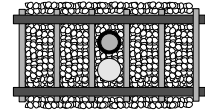
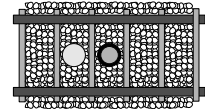
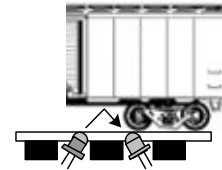

Figure 4a
Figure 4b
Figure 4c
The Signal Animator provides automatic operation of 3-color/aspect block signals in a semi-prototypical way. An Infrared (IR) emitter and detector are used for train detection. Detection is achieved when the IR beam from the emitter reflects off the underside of the train back down to the detector. **Despite the use of infrared components you could still encounter false triggering from overhead lighting. This is usually eliminated with angled sensor mounting (Figure 4c) and/or proper sensor sensitivity adjustment (page 3).** This version of the Signal Animator must be powered from either a 7-9V AC or 9-12V DC power source. Do NOT exceed these limits! Whenever the sensor is activated by any portion of a train the signal will turn red. Once the sensor is cleared the Signal Animator will delay (10 or 30 seconds; see below) and then change the signal to yellow. After another delay the signal will be changed to green.
The IR components should be mounted between the rails. Drill two 11/64" holes, approximately 1/4" apart, through the ballast, roadbed, and sub-roadbed. For the smaller scales this drilling may end up hitting the ties. Take your time so you don't mangle them! Figure 4a illustrates the suggested placement of the IR components between the rails; you may also locate them a tie apart from each other (Figure 4b). Insert the leads of one IR emitter (white and black wires) into one of the holes (it doesn't matter which one!) from the top of your layout. Repeat for the IR detector (blue and black wires). The tops of the components should sit no higher than the top of your ballast for optimal IR performance; in some cases (e.g. false triggering) it may be necessary to locate the components a little below the ballast line. You can extend the leads with similar (or larger) wire. We recommend soldering and insulating these connections. Once you have wired the IR components and verified their operation you may wish to put a dab of white glue or silicone caulk where the wires exit the holes underneath the layout. This will help to hold the components in place; make sure you don't get any substance (e.g. ballast or glue) on the top surface of the IR components as this may prevent them from operating properly. **Figure 4c is a variation of Figure 4b. In this case the IR components are mounted at an angle to each other. The benefit of this method is reduced false triggering from overhead light and increased detection reliability in smaller scales or irregular bottoms on rolling stock.**